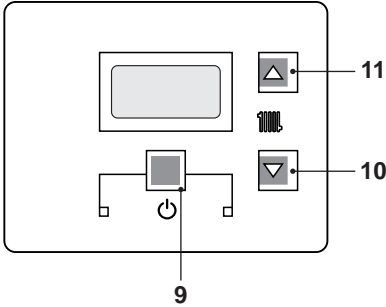
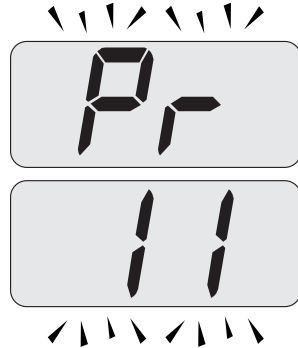
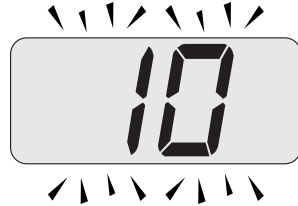

Fig. 7.24
Fig. 7.26
Fig. 7.27
- Enter in "programming mode" by pressing keys 9 - 10 - 11 (Fig. 7.24) for 10 seconds
- Scroll the various parameters using keys 10 or 11 until the letters **Pr** that alternate with code **11** are displayed on the LCD display, indicating that "parameter 11"(Fig. 7.26) has been activated.
- Press keys 9 and 11 (Fig. 7.24) at the same time until the value of parameter 11 (10=60 seconds) (Fig. 7.27) is displayed on the LCD display.
- By pressing key 9 (Fig. 7.24) confirmation of the inserted value is obtained.
- Press keys 9 and 10 (Fig. 7.24) at the same time to exit without changing the value (return to the parameters list Fig. 7.26)
- Press keys 9 - 10 - 11 (Fig. 7.24) at the same time for 10 seconds to exit the "programming mode".